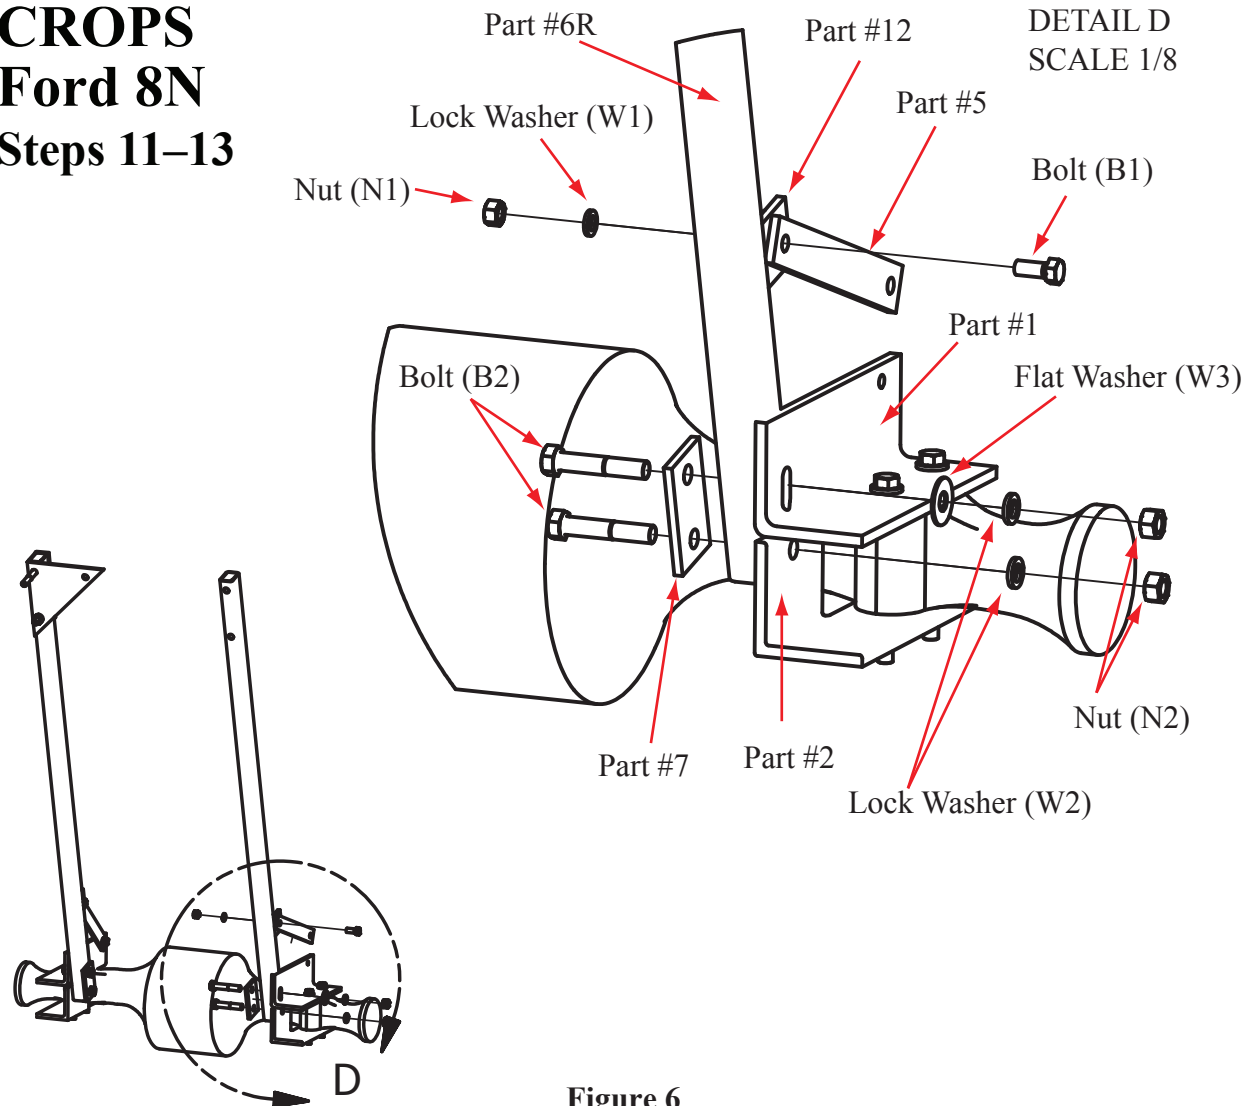

Figure 6
Step 11. Attach a vertical tube bolted brace (#5) to the vertical tube welded brace (#12) of the right vertical tube (#6R) using a bolt (B1), a lock washer (W1), and a nut (N1). Tighten to a snug fit. (Figure 6)
Step 12. Insert bolt (B2) through the bottom vertical tube backing plate (#7). Slide the bottom holes of the right vertical tube (#6R) onto bolt (B2), then slide bolt (B2) through the hole on the bottom right axle bracket (#2). Secure with lock washer (W2) and nut (N2) to create a snug fit. The vertical tube welded brace (#12) (welded to part #6R) and bolted brace (#5) should be facing up and toward the axle bracket side as shown in Figure 6.
Step 13. Rotate the vertical tube (#6R) toward the front of the tractor. Insert bolt (B2) through backing plate (#7), and the corresponding holes in the right vertical tube (#6R), and the slotted opening in the top right axle bracket (#1). Slide the flat washer (W3) onto bolt (B2) and secure with lock washer (W2) and nut (N2) to create a snug fit. (Figure 6)